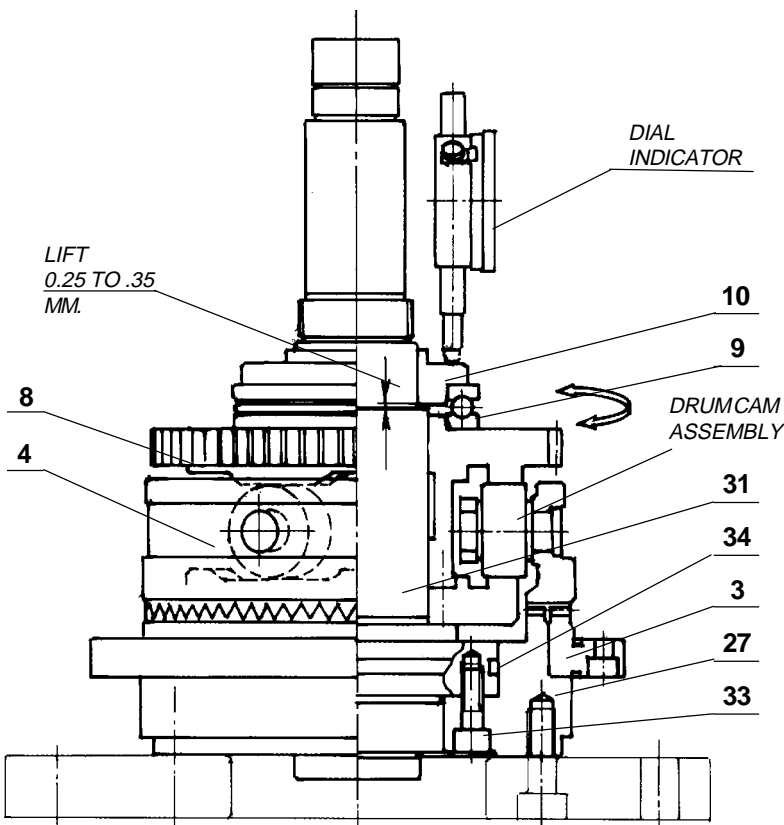

FIG.17.3
**17.13** Assemble spindle, indexing flange and fixed coupling (components 31, 34, 27, 3, 33); and keep this assembly in vertical position on a table (fig 17.3). It is convenient if the assembly could be clamped to the table with the help of a plate as shown in the drawing. If plate is not available you may use tool disc in place of the plate.
#### 17.15 Inspection of spring seat lift (fig 17.3):